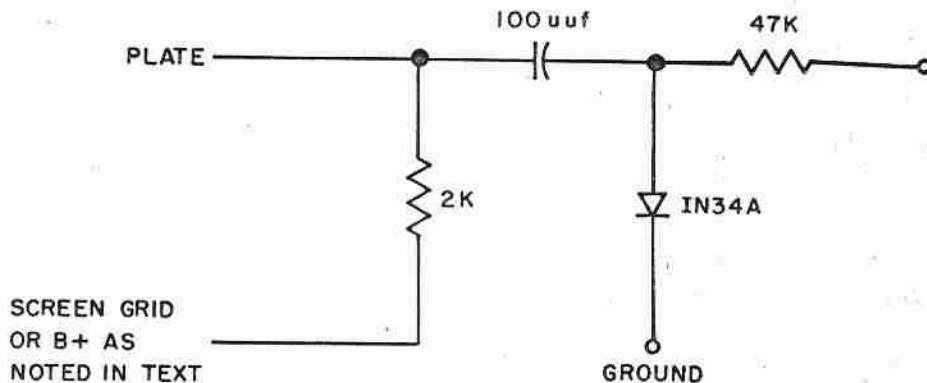

Fig. 4-1. Detector Used in IF Alignment, Schematic Diagram
- (1) Place IF selector switch in "off" position.
- (2) Connect sweep (1) and marker (2) generators to pin 2 of V-402.
- (3) Disconnect plate of V-403 and connect detector (Fig. 4-1) between plate of V-403 and screen grid.
- (4) Adjust primary and secondary tuning and coupling until a transitionally coupled (flat top) response is obtained with a 3-db bandwidth of 2 mc.
- (3) Disconnect plate of V-402 and connect detector (Fig. 4-1) between plate of V-402 and screen grid.
- (4) Adjust primary and secondary tuning until an overcoupled response is obtained with a 3 db bandwidth of about 2.5 mc.
- (1) Place IF selector switch in "500 kc" position.
- (2) Connect sweep (1) and marker (2) generators to pin 1 of V-305.
- (3) Disconnect connecting cable between 5-mc IF amplifiers and limiter-discriminator unit.
- (4) Connect detector (Fig. 4-1) between plate of V-306 and B+.
- (2) Connect sweep (1) and marker (2) generators to pin 1 of V-304.
- (3) Disconnect plate of V-305 and connect detector (Fig. 4-1) between plate of V-305 and B+.
- (4) Disconnect cable connecting 5-mc IF amplifier and front end.
- (2) Remove the second oscillator tube V-207.
- (3) Connect sweep (1) and marker (2) generators to pin 1 of V-209.
- (4) Disconnect plate of V-304 and connect detector (Fig. 4-1) between plate of V-304 and pin C on T-311.
- (5) Adjust primary and secondary tuning and coupling until a transitionally coupled response (flat top) is obtained with a 1/2 db bandwidth of 500 kc.
- (1) Place IF selector switch in "100 kc" position.
- (2) Connect sweep (1) and Marker (2) generators to pin 1 of V-302.
- (4) Connect detector (Fig. 4-1) between plate of V-303 and B+.
- (2) Connect sweep (1) and marker (2) generators to pin 1 of V-301.
- (3) Disconnect plate of V-302 and connect detector (Fig. 4-1) between plate of V-302 and B+.
- (4) Disconnect cable connecting 5 mc IF amplifiers and front end.
- (4) Disconnect plate of V-301 and connect detector (Fig. 4-1) between plate of V-301 and B+.
- (5) Adjust primary and secondary and coupling until a transitionally coupled (flat top) response with a 100 kc flat top is obtained.